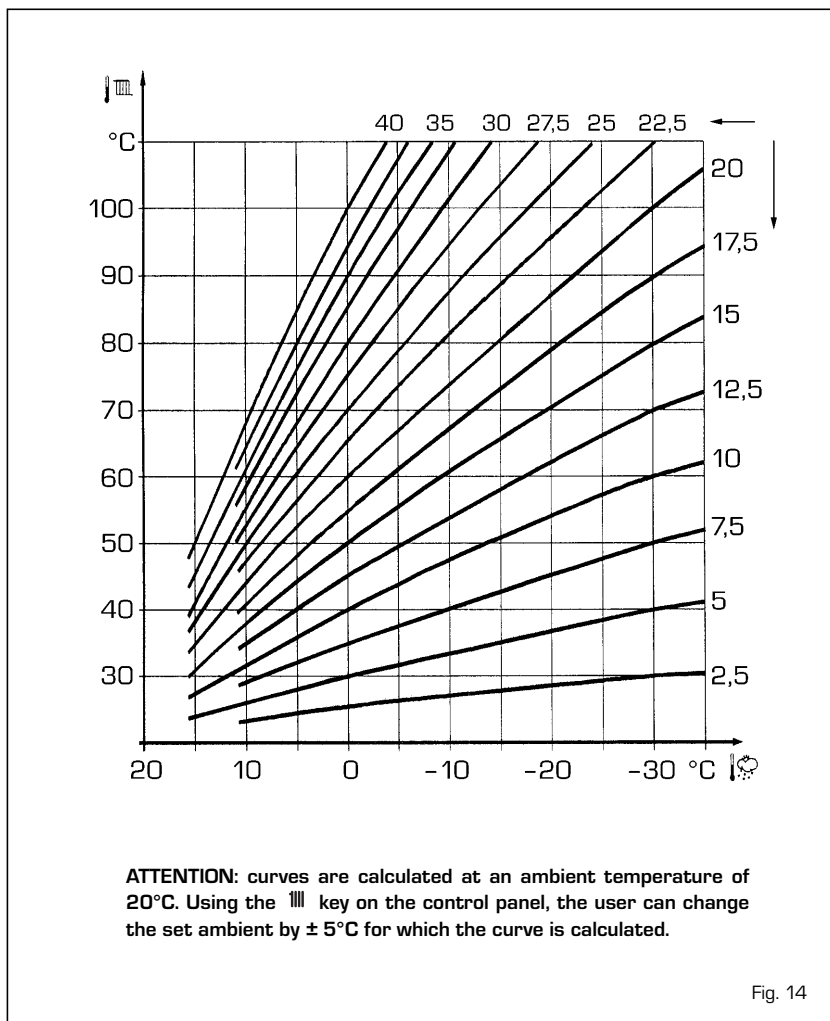

Fig. 14
3.3 EXTERNAL SENSOR (fig. 14)
If there is an external sensor, the heating settings SET can be taken from the climatic curves (PAR 12) according to the external temperature and, in any case, limited to with the range values described in point 3.2 (parameters PAR 13 and PAR 14). The climatic curve to be set can be selected from a value of 3 and 40 (at step 1). Increasing the steepness of the curves of fig. 14 will increase the output temperature as the external temperature decreases.